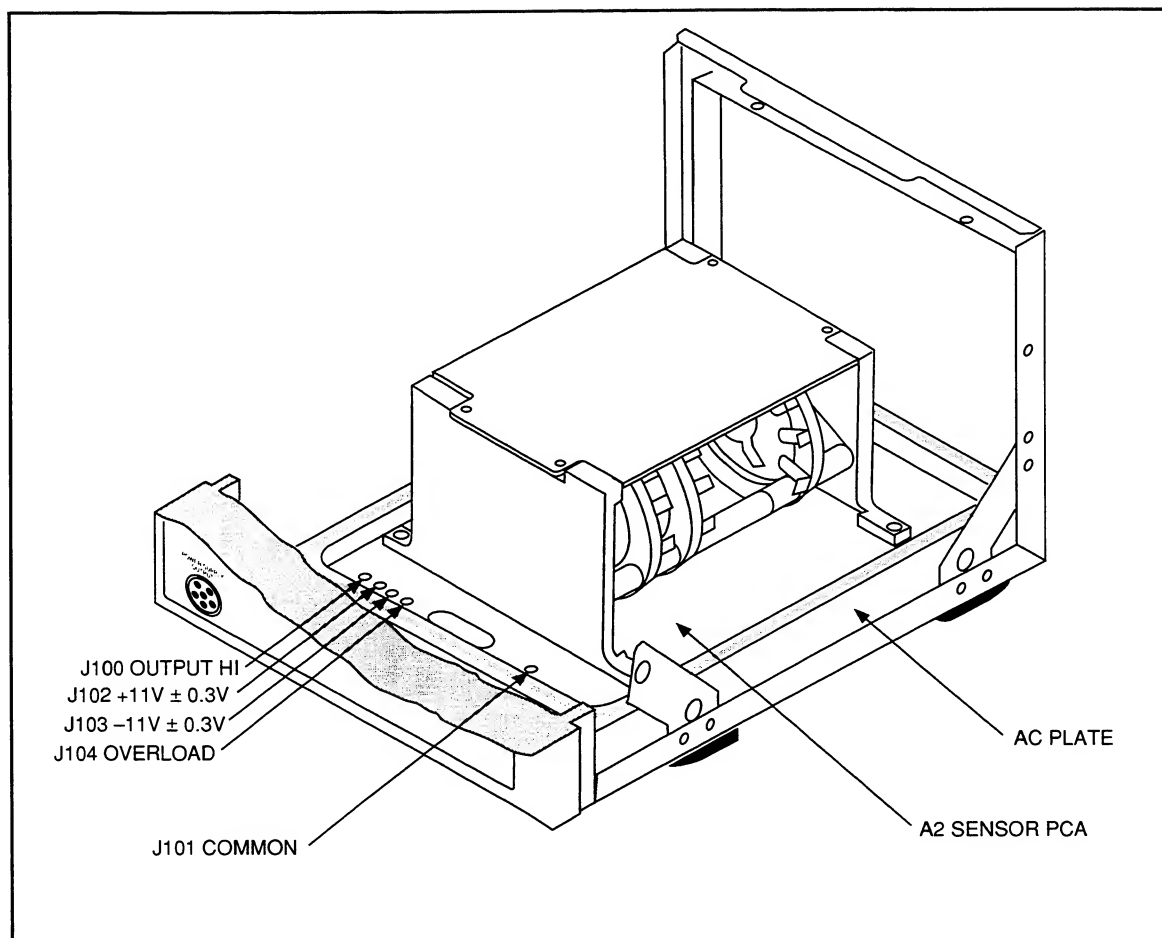

Figure 5-7. AC Plate Voltage Test Points
2. Set the range switch to 2.2V, and check the  $\pm 11$ V supplies with a DMM at the test points shown in Figure 5-7.